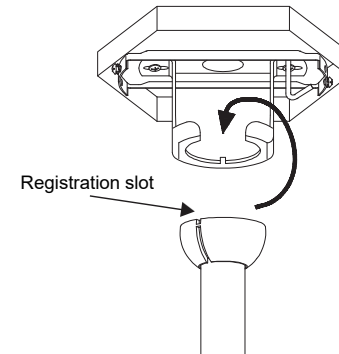

Fig. 7
Step 7. Place downrod ball into the hanger bracket socket (**Fig 7**). Rotate the entire assembly until the "Check Tab" has dropped into the "Registration Slot" and seats firmly. (**Fig. 7**)